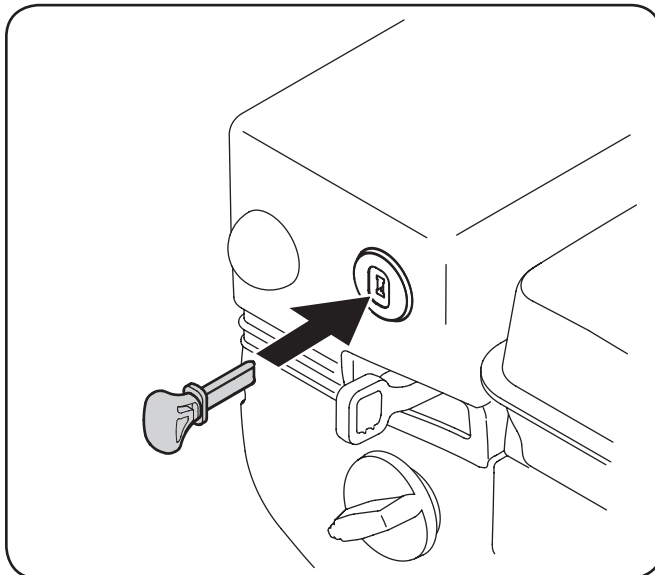

Figure 5-1
2. Insert the key fully into the slot, Fig. 5-1. Make sure it snaps into place. DO NOT turn the key. The engine cannot start unless the key is inserted into the ignition switch.
1. Insert the key fully into the slot, Fig. 5-1. Make sure it snaps into place. DO NOT turn the key. The engine cannot start unless the key is inserted into the ignition switch.
4. Push the primer three (3) times, making sure to cover the vent hole when pushing. If the engine is warm, push the primer only once. Always cover the vent hole when pushing. Cool weather may require priming to be repeated.